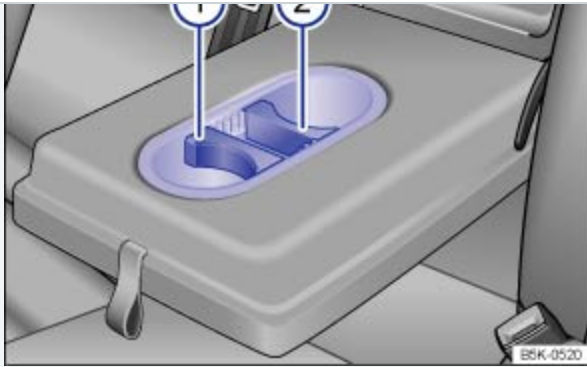

Fig. 130 Cup holders in the rear center armrest (version 2).
Some cup holders have inserts that can be positioned to hold beverages of different sizes ⇒ Fig. 130. To *adjust* the cup holder to the size of the cup, pull the inserts ① or ② upward and reposition them to fit the size of the cup.